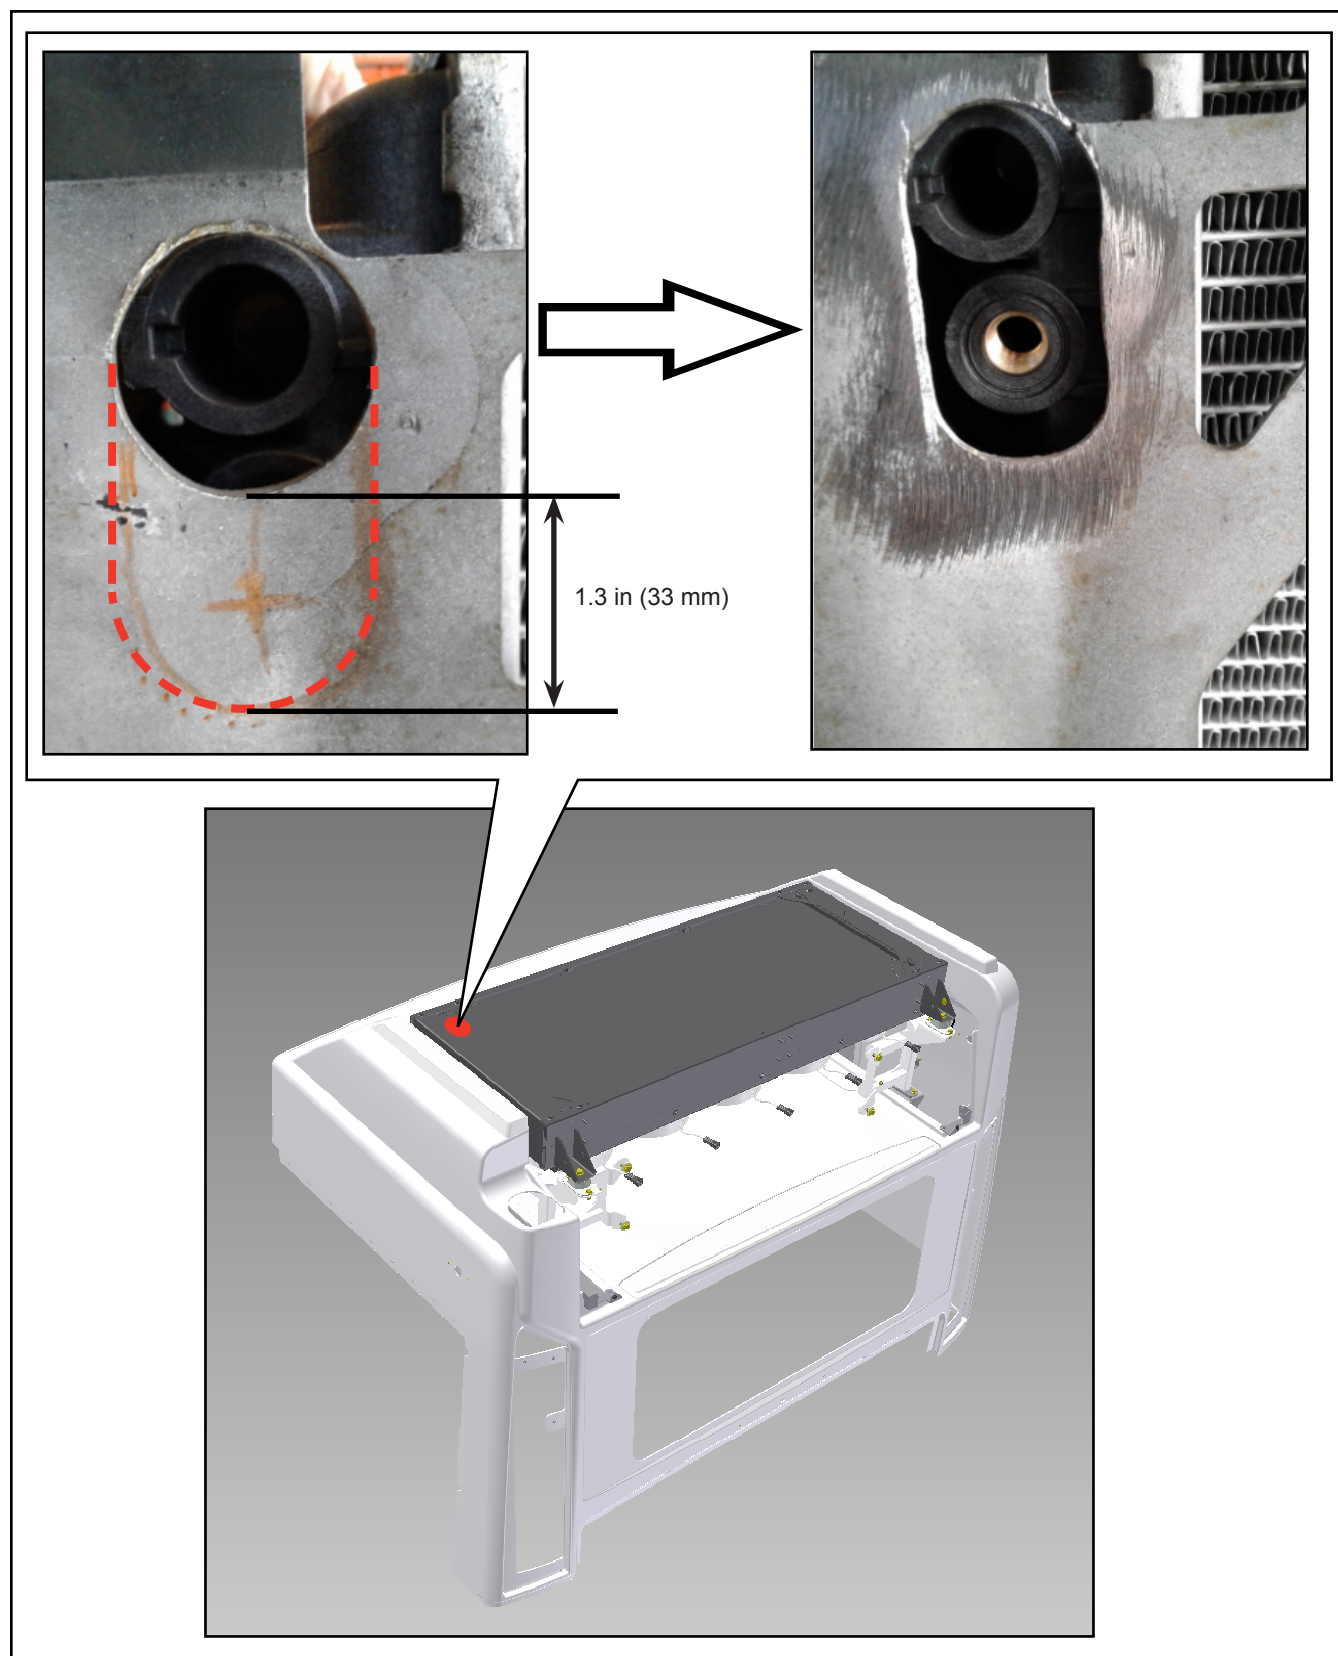

Figure 8 - Typical View of Vent Provision on Street Side
1.24. Enlarge the opening on the street side of the radiator assembly frame (see Figure 8).